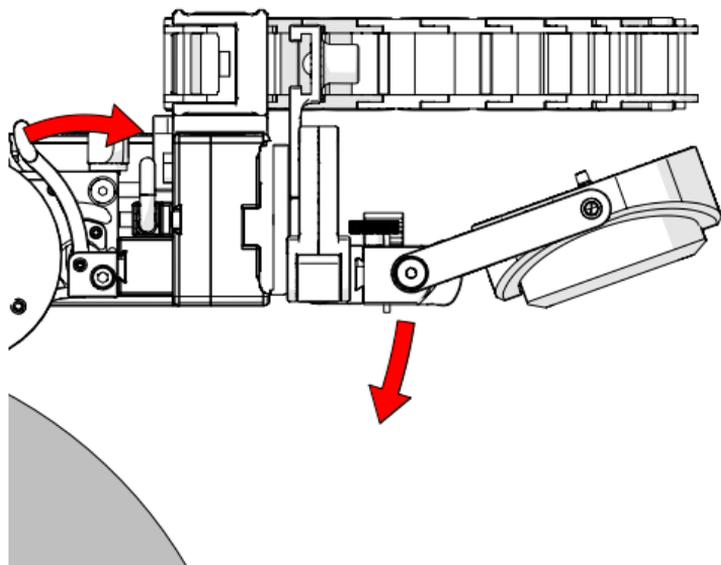

Fig. 131 - Pivot raster arm
3. Release the two levers on the swivel mount to allow pivoting of the raster arm (Fig. 131).